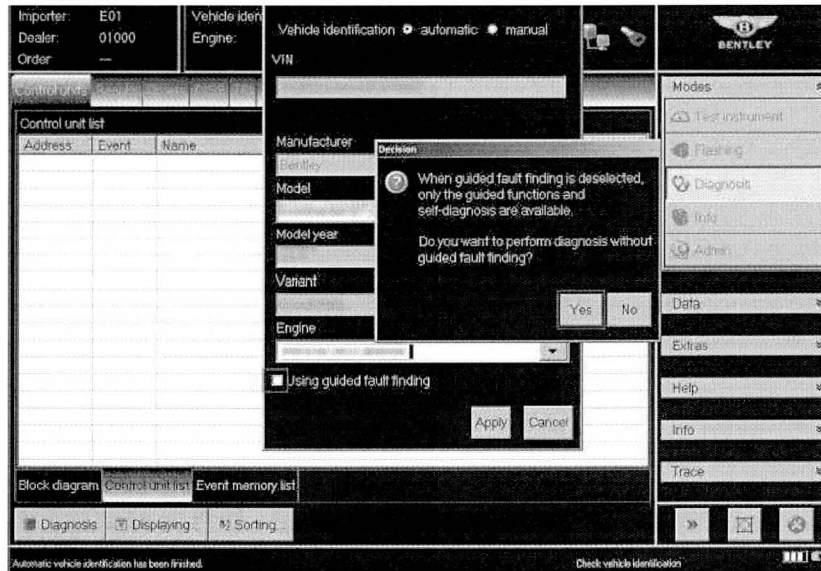

Figure 3
6. Deselect Guided Fault Finding – remove tick from *Using guided fault finding* option – then select *Yes* at pop-up and *Apply* (Figure 3)